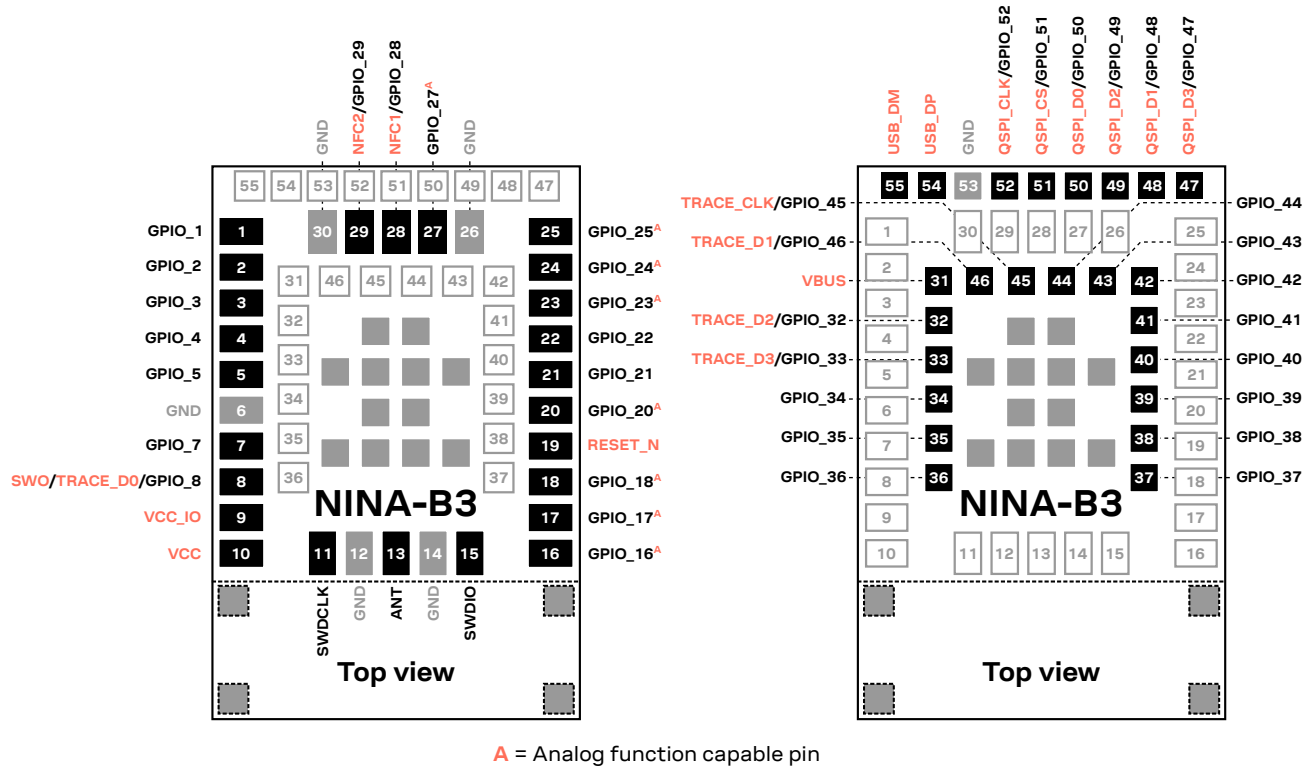

Figure 4: NINA-B30 series pin assignment (top view)
The pin-out described in Figure 4 is an example assignment that shows the module in an unconfigured state.
The grey pins in the center of the modules are GND pins. The outline of NINA-B301 ends at the dotted line as shown in Figure 4, where the antenna area of the NINA-B302 and NINA-B306 begins. The four grey pins with dotted outlines in the antenna area are GND pins and are only present on NINA-B306.
- Most of the digital or analog functions described in this data sheet may be freely assigned to any GPIO pin. Analog functions are limited to analog capable pins. Signals that are highlighted in red in Figure 4 are not freely assignable but locked to a specific pin.